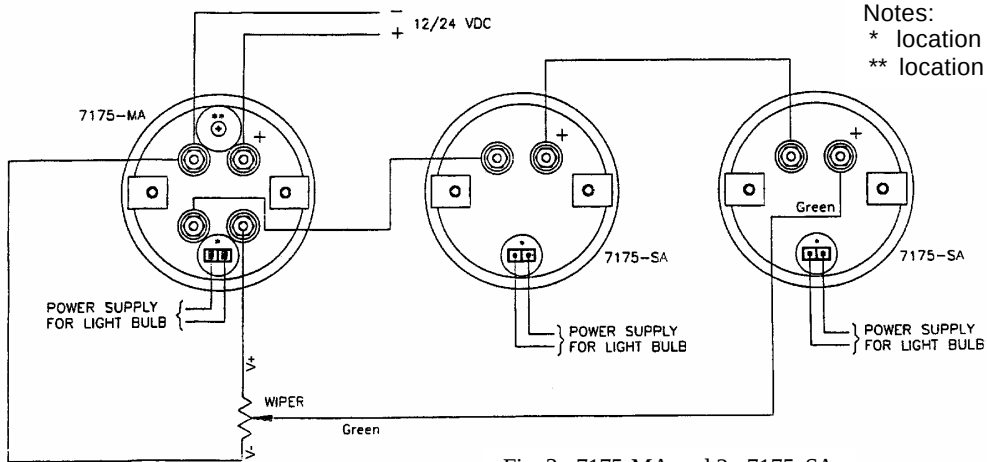

Fig. 3: 7175-MA and 2x 7175-SA
- ✍ Additional stations, if any, are to be connected in series as in figure 3.